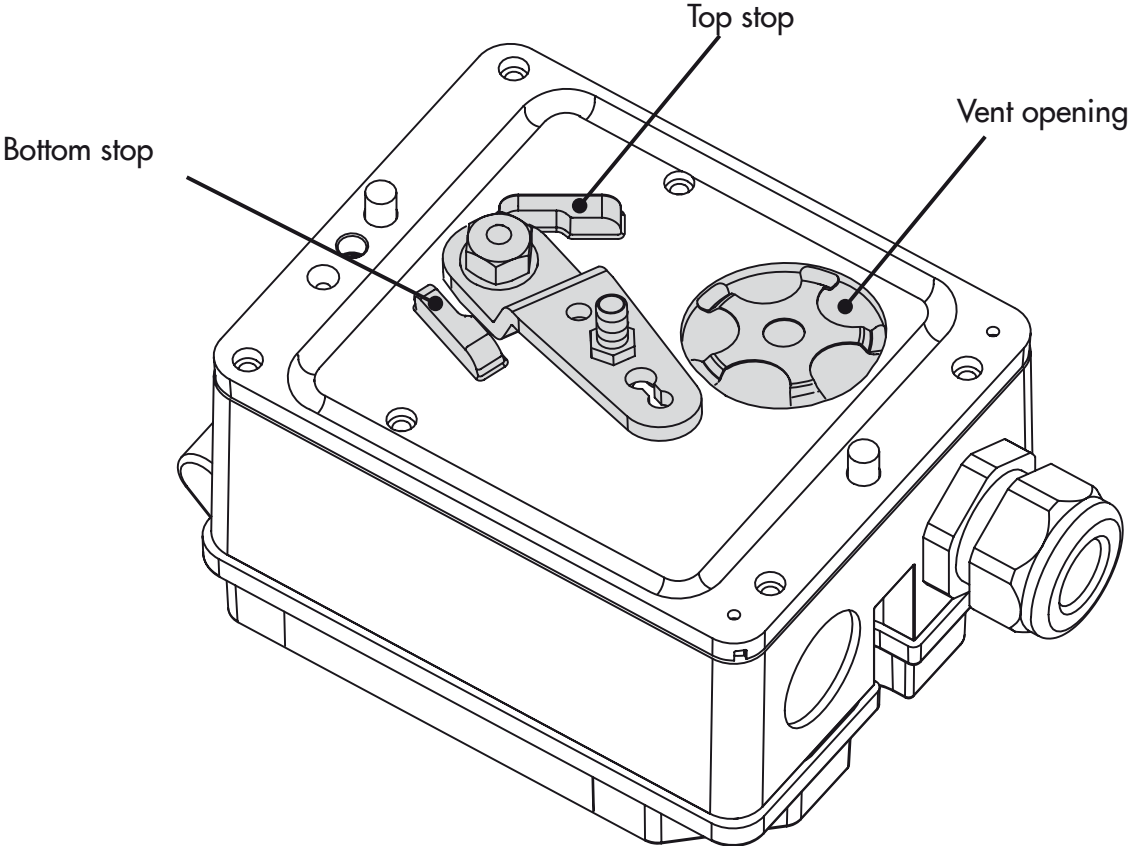

Fig. 4: Mechanical stops and vent opening
- **Do not mount the positioner with the vent opening (Fig. 4) facing upward.**
1. Move the lever to the bottom mechanical stop (see Fig. 4) and hold it in place. Undo and remove the nut using a wrench (width across flats SW 10).